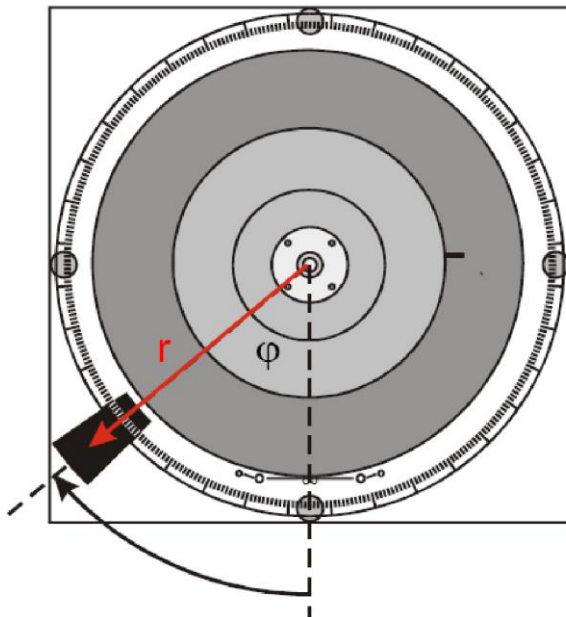

Figure 1: Rotational motion of a mass (here the black flag) at radius r , from the center of rotation. φ angular displacement
By choosing appropriate conditions for the initial angular displacement ($\varphi_0 = 0$) and the angular acceleration ($\alpha = 0$) in equations (3) and (4) the following equations result for describing of the uniformly rotating flag (Figure 1.)
By choosing appropriate conditions for the initial angular displacement ($\varphi_0 = 0$) and the angular velocity ($\omega_0 = 0$) in equations (3) and (4) the following equations result for describing of the uniformly accelerated rotating flag (Fig. 1.)